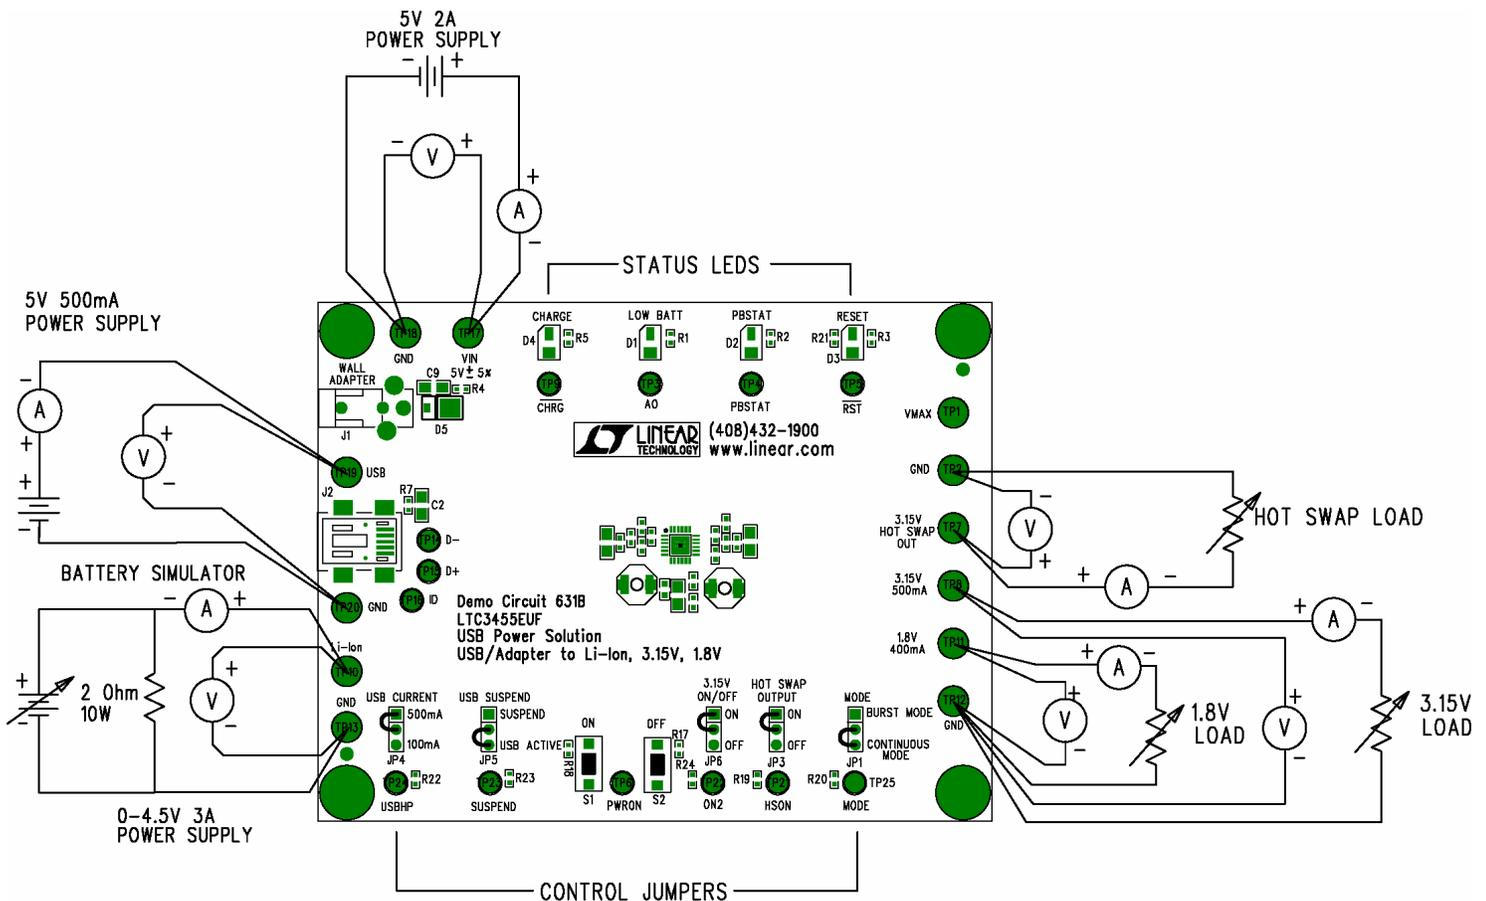

Figure 1. Proper Measurement Equipment Setup
Demonstration circuit DC631 is easy to set up to evaluate the performance of the LTC3455. Refer to Figure 1 for proper measurement equipment setup and follow the procedure below:
1. Connect input power supply, meters and output load as shown in figure 1.